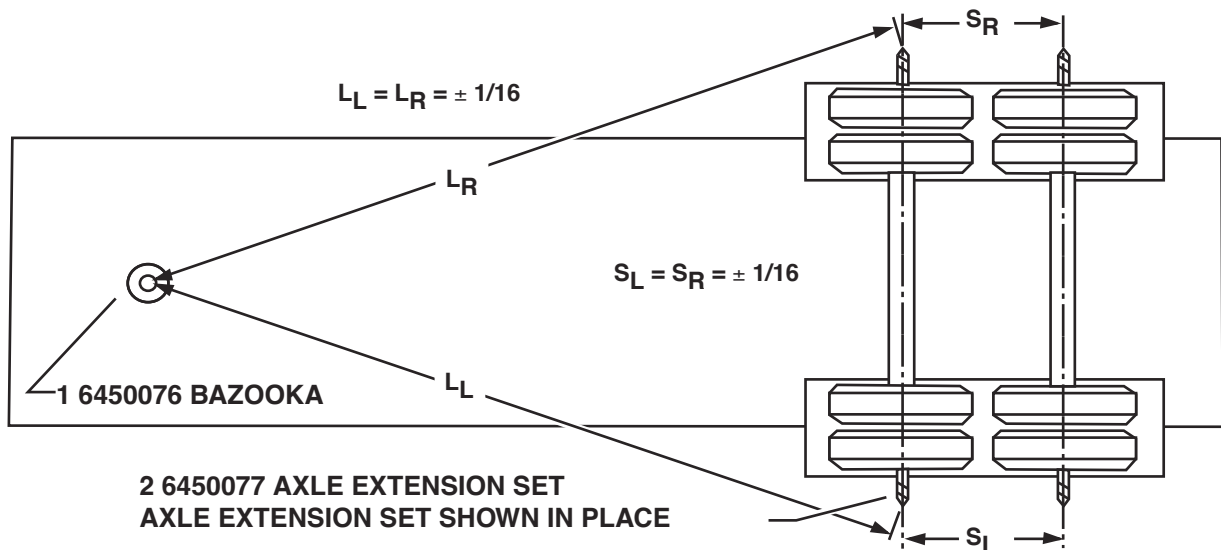

Figure 15. Alignment of Axle
4. Inspect axle alignment to kingpin. Forward axle should be  $\pm 1/16$ " left to right relative to kingpin. Rear axle, if equipped, should be in line with forward axle  $\pm 1/16$ " axle center to axle center. Refer to axle alignment procedure shown in Figure 15.
1. Align the forward axle to center of kingpin (see "A" in Figure 15), then align rear axle to center of forward axle (see "B" in Figure 15). The measurement from left to right side of axle centers should not exceed 1/8" difference.
5. After alignment is achieved, re-install anti-turn washer and weld at positions as shown in figure 15. Re-torque the eccentric bolt lock nut to specified torque.